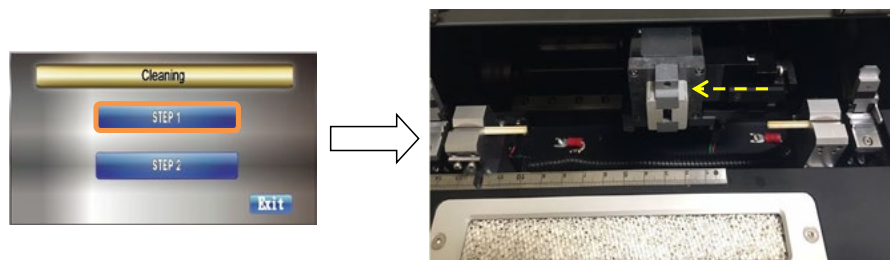

Figure 3.2.20
- b) Press 'STEP 1' key. The plasma head will move to the center position. (Fig. 3.2.20)